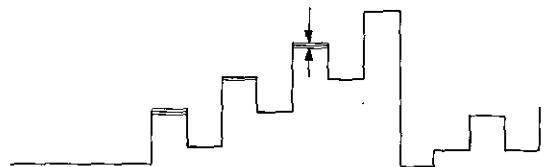

Figure 13
- 5) Adjust L502 to obtain minimum fluctuation as shown in figure 13 after changing PATTERN into the colour BAR.